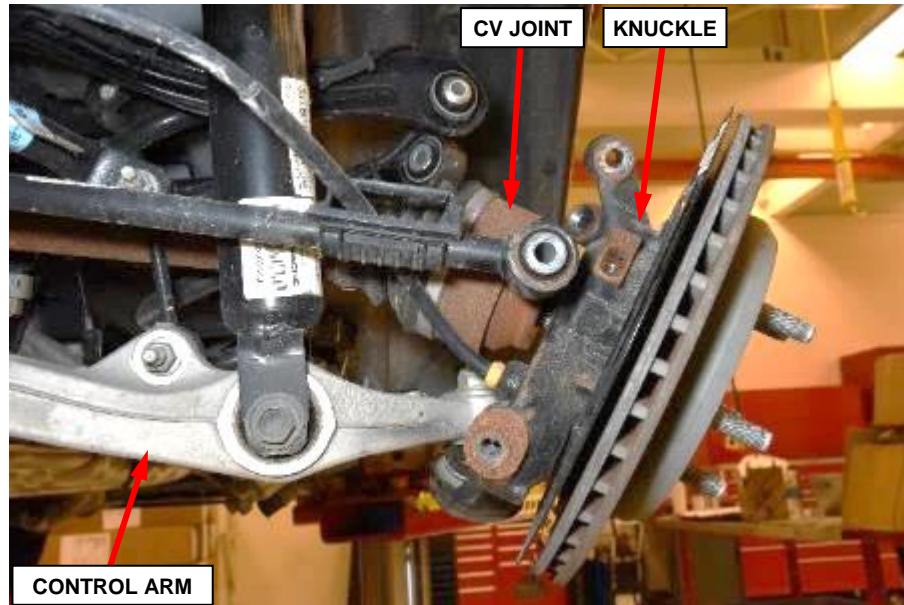

Figure 17 – Right Side Rear Knuckle
27. Swing the rear knuckle outward as shown (Figure 17).
21. Swing the rear knuckle into position (Figure 17).